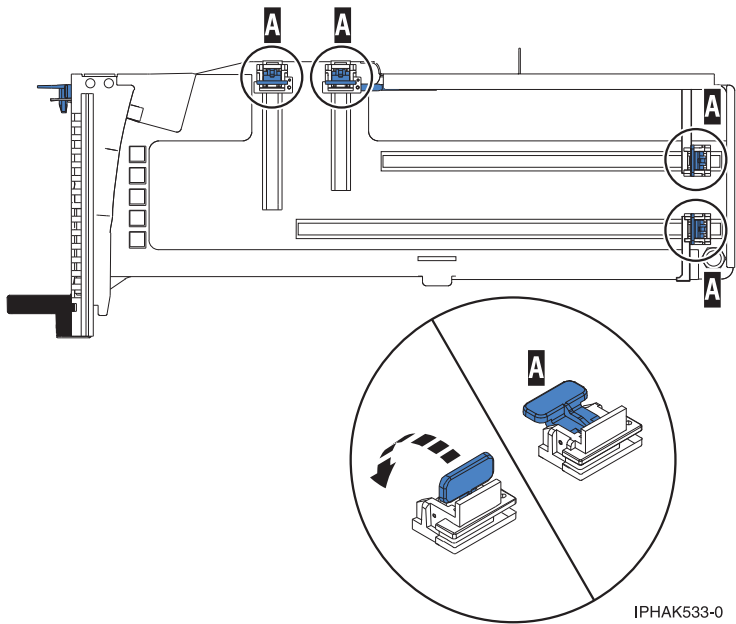

Figure 39. Adapter retainers
- b. Ensure that all of the adapter retainers (A) have been pushed out to the edges of the cassette to allow the placement of the adapter. See Figure 39 on page 50.